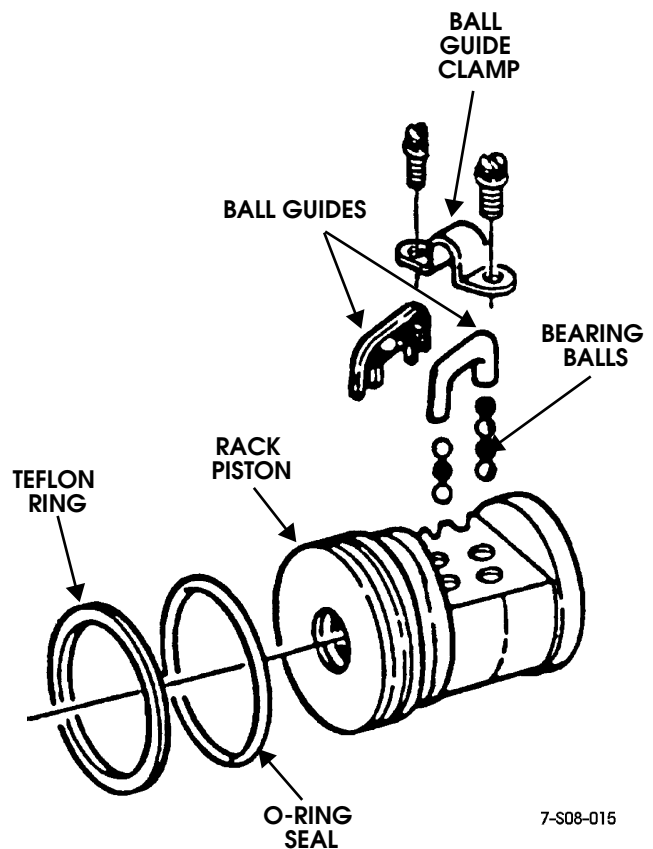

Figure 8-42: Rack Piston Components
7. Remove teflon seal rings and backup O-rings from rack piston (Figure 8-42).